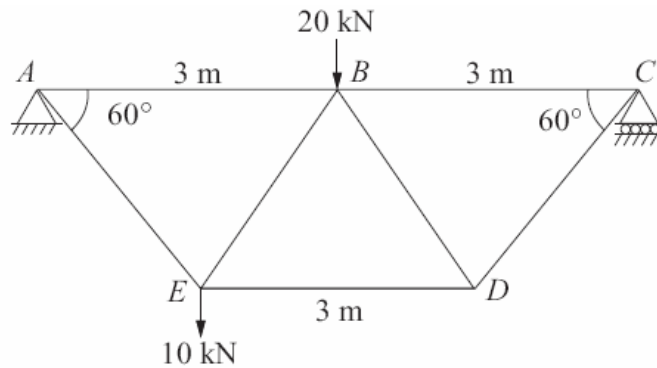

Fig.4
6. Determine the forces in the members of the truss shown in Fig.4. using Stiffness method. All the members have equal cross-sectional area of 1240 mm². E=206GPa. [15]